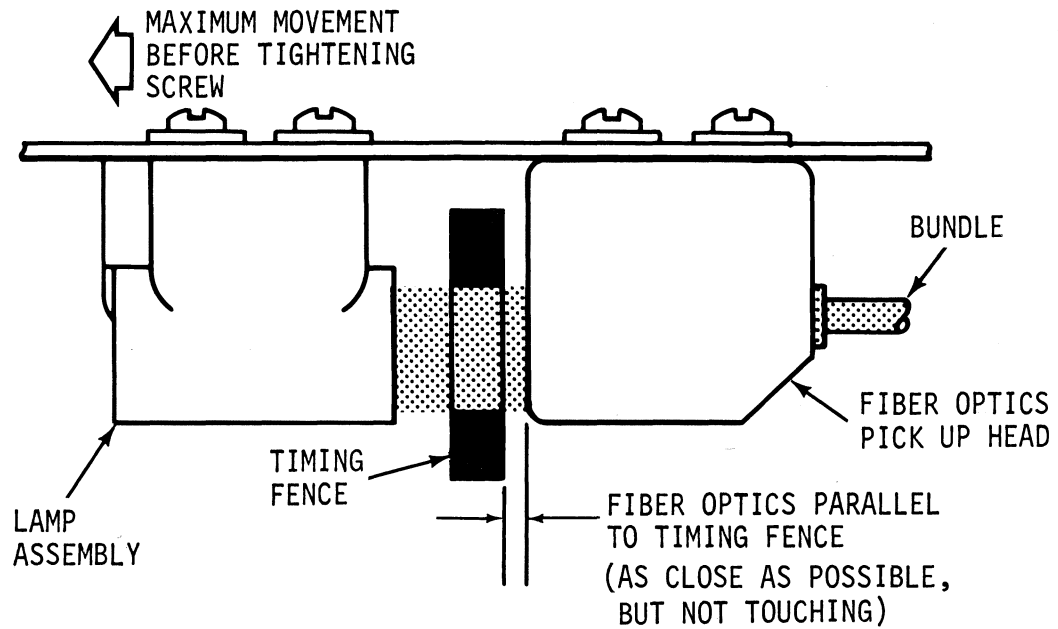

Figure 5-10. FIBRE OPTICS HEAD, ADJUSTMENT FROM OPTIC FENCE
2. Move lamp holder housing assembly (B-32) without lamp (B-41) and socket (B-42) backward on screw adjusting slots at maximum distance from timing fence (Fig. 5-10). Tighten screws (B-35) (screws must be flat-head) when right side of lamp housing is aligned parallel to edge of bracket.
4. Adjust the right, top edge of fibre optics head so that it is parallel with edge of bracket (B-26) and as close to fence without touching. (See Fig. 5-10)